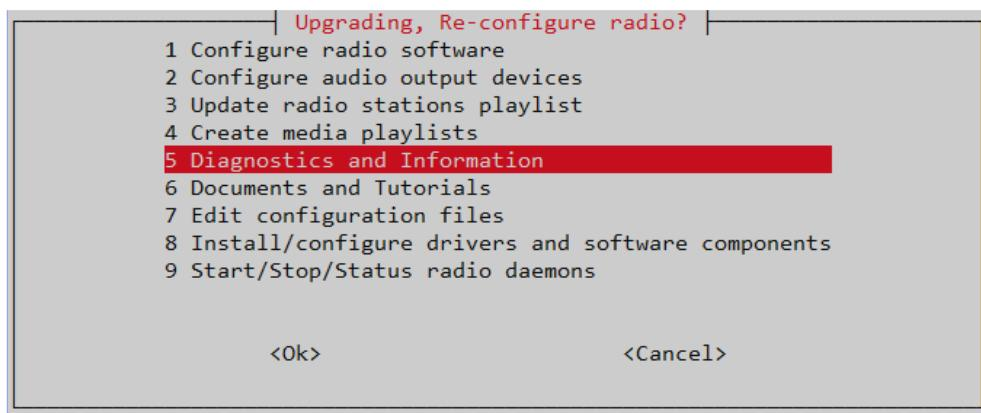

Figure 240 Diagnostics and Information menu
- Select option **1 Run the radio in diagnostic mode (nodaemon)** shown in *Figure 240 Diagnostics and Information menu* on page 204.
- Select option **2 Test rotary encoders** from the diagnostics menu. shown in *Figure 240 Diagnostics and Information menu* on page 204.
- Select option **2 Test rotary encoders** from the diagnostics menu shown in *Figure 240 Diagnostics and Information menu* on page 204.
- Select option **4 Test events layer** from the diagnostics menu shown in *Figure 240 Diagnostics and Information menu* on page 204. This displays the following output